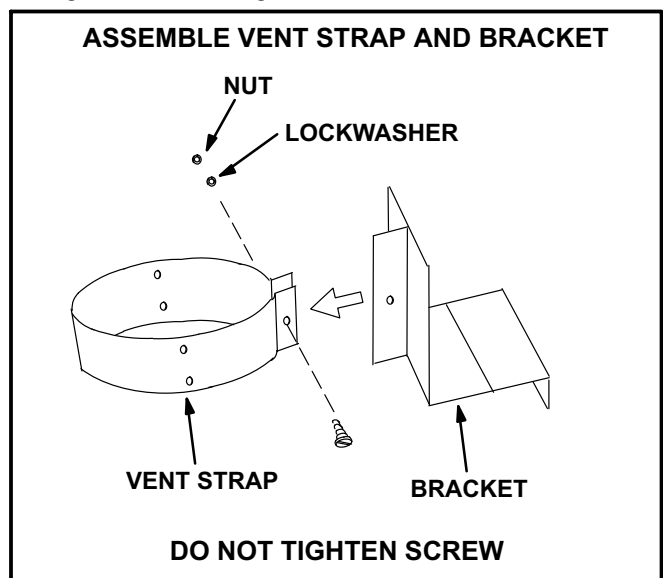

FIGURE 3
- 4- Assemble the vent strap and bracket as shown in figure 3. Do not tighten screw.
- 9- Assemble vent strap and bracket as shown in figure 3 without tightening screw.